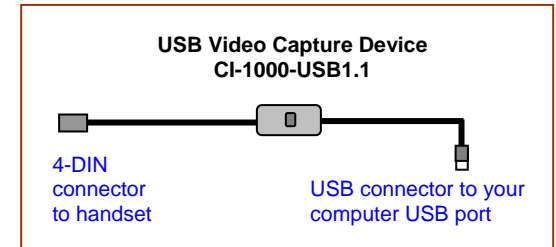

Figure 3
1. Connect the CI-1000-USB1.1 Video Capture Device to the inspector handset as well as your computer USB port, as shown in Fig. 3.